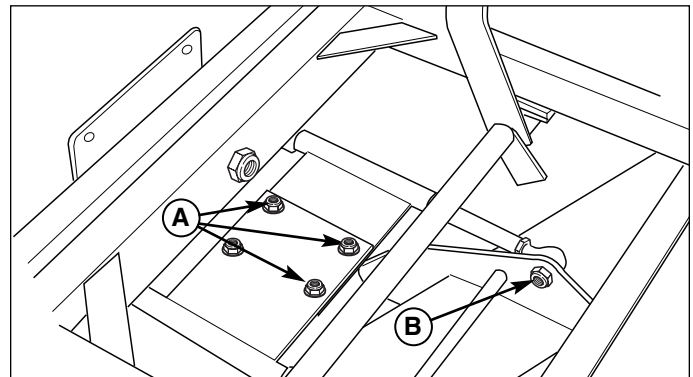
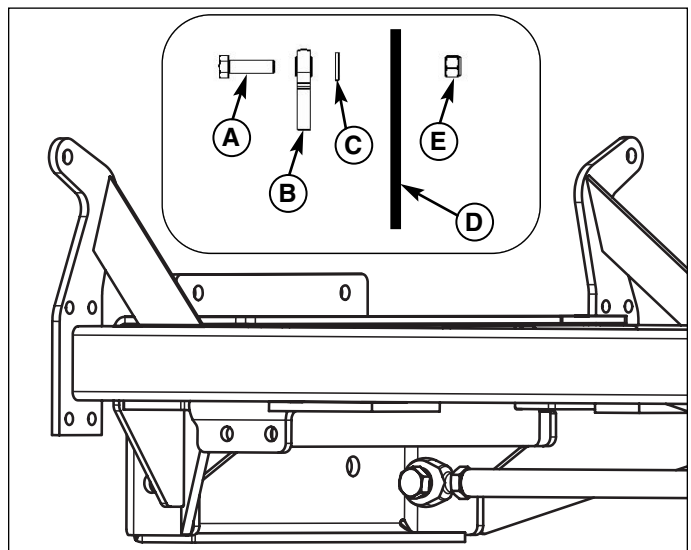

Figure 2. Deck Puller Bar
Figure 10. Reinstall the Puller Bar
5. Loosen the (4) deck puller bar adjustment bolts (A, Figure 2). Remove the (4) mount hardware (B) that connect the deck puller bar to the front end and the deck. Remove the deck puller bar and set aside.
12. Refer to Figure 10. Reinstall the mower deck puller bar (front of the puller bar install on the inside of the new front end). Install hardware removed previously. Tighten the puller bar adjustment bolts (A, Figure 2).